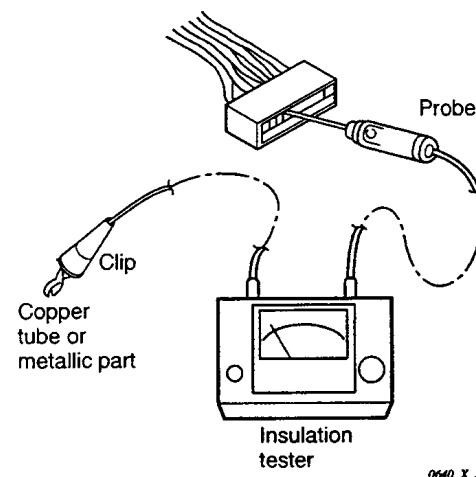

Fig. 8
④ Measurement of Insulation Resistance for Electrical parts
- Disconnect the connector of the desired electric part from terminal plate, P.C.B. Ass'y, etc. (Fig. 8)